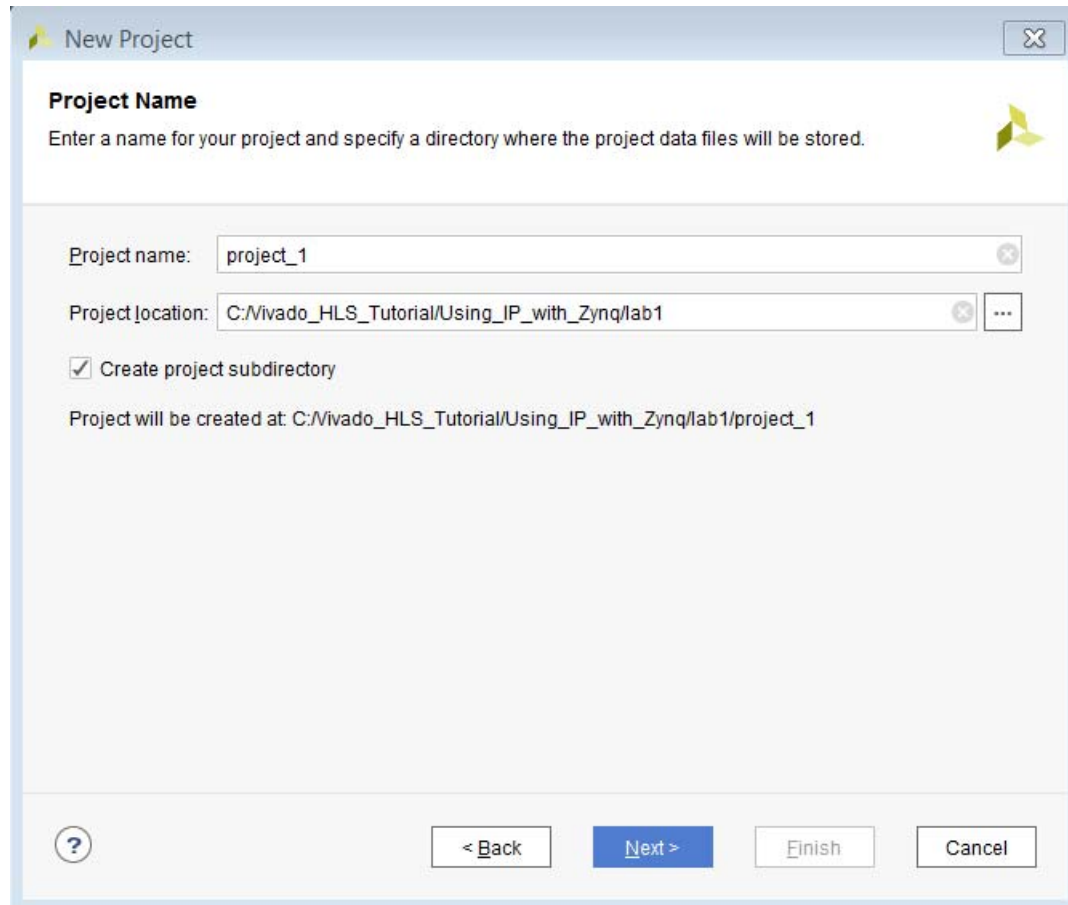

Figure 10-3: Specify the Vivado Project Directory
- b. In the Project Location text entry box, browse to the location of the tutorial file directory `Using_IP_with_Zynq\lab1` and click **Next** (Figure 10-3).